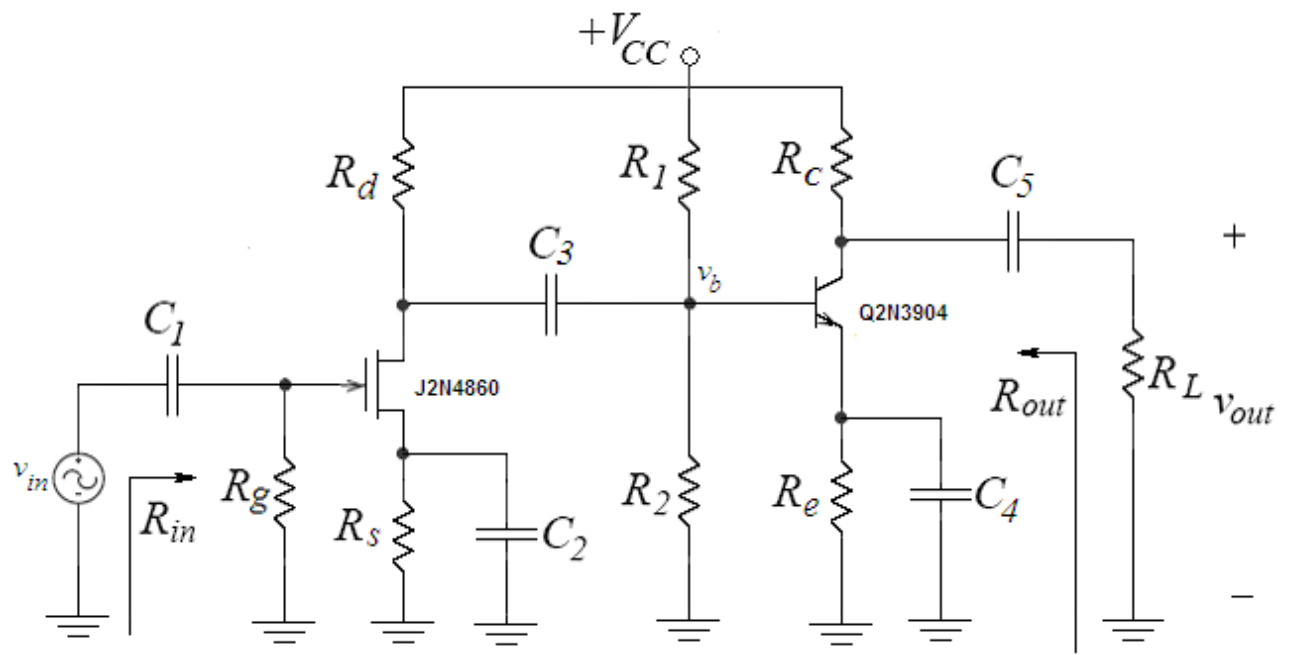

figure1
The JFET CS - BJT CE cascade two-stage amplifier in Fig.1 is a good multistage configuration because the CS and CE amplifiers together provide some very desirable characteristics. JFET CS amplifier has a gain usually less than 10. Because of the high input impedance and low noise, JFET is usually used as the first stage in a multi-stage amplifier to pick up weak input signals. The BJT CE amplifier makes up the second stage and has the characteristics of high input impedance, low output impedance and high voltage gain.
In laboratory you will construct the circuit in Fig.1 using the transistors 2N3904 and 2N4860 and following values ;
1. Make the DC analysis of the circuit given in the Fig.1;
2. Make the AC analysis of the circuit given in the Fig.1;
a. Construct your circuit in Fig1. in Pspice
b. Bias simulation. Simulate the circuit of Fig.1. Do a BIAS simulation and find the **DC voltages at each node** (V_D , V_G , V_S , V_B , V_C , V_E) and **currents** I_D , I_C , I_E , I_B . Compare the results with the one you calculated in preliminary work part1.